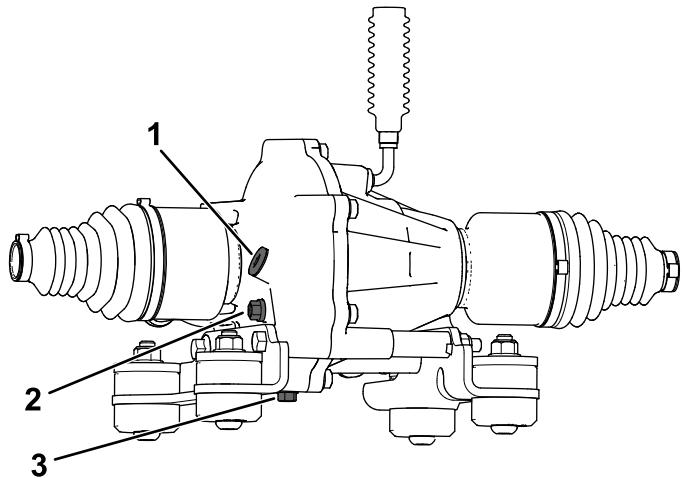

Figure 118
4. Remove the check plug on the front differential (Figure 118).
5. If the oil level is low, you may add the specified oil through the check plug opening (Figure 118).
4. Align a drain pan under the drain plug (Figure 118).
5. Remove the fill plug (Figure 118).
6. Remove the drain plug and allow the fluid to drain completely (Figure 118).